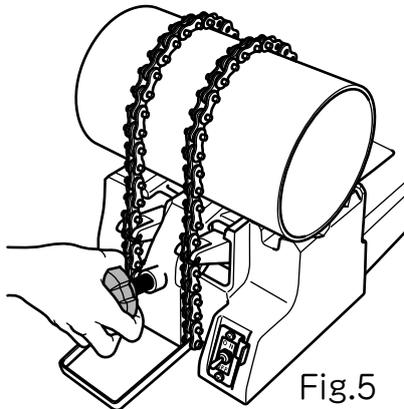

Fig.5
- (1)Place the workpiece into contact with the vise V groove. Hold the chain handle, chain the workpiece, grad the pin of the chain with the clamber, and turn the clamp knob to tighten the workpiece. [ Fig.5 ]